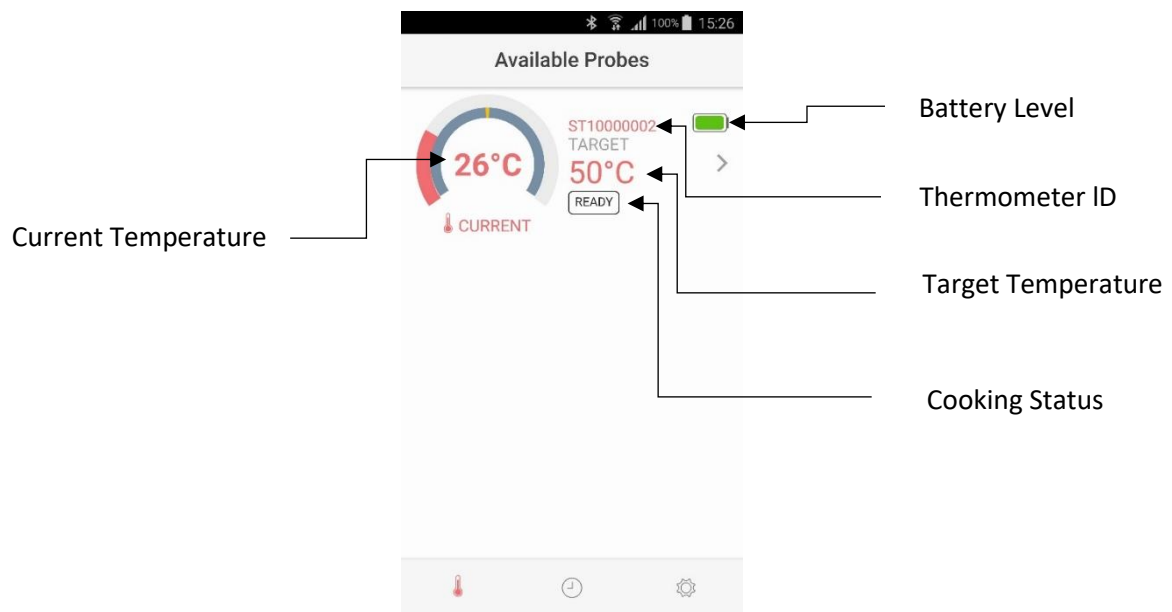

Figure 4. Example of Intelligent Wireless Thermometer Reading
When you are running the app for the first time, there will be a welcome screen and a setup screen. After going through the welcome, setup and tutorial screens, the display will be shown on the screen as shown Figure 4.
8. The APP will search any available wireless thermometer near you and show the corresponding reading on the screen of your mobile phone. When you see the reading of the wireless thermometer (see example in Figure 4), it is now ready for use.